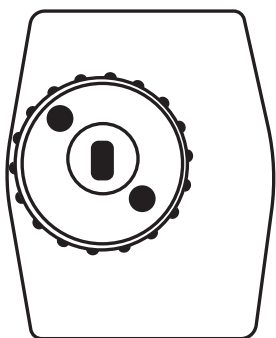
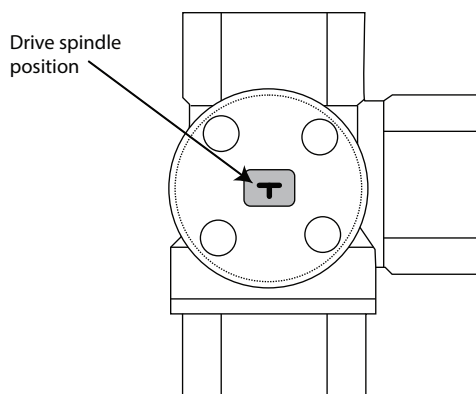
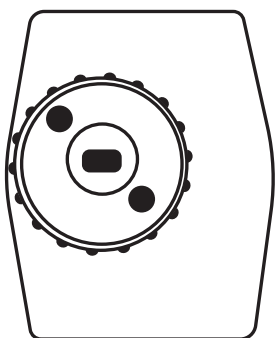
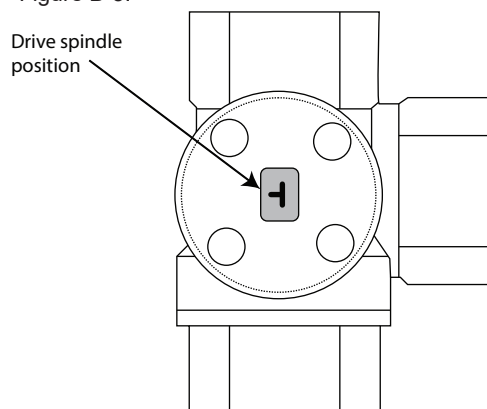

Figure B-2: Actuator spindle slot position - DHW
Figure B-3: Option 1 - Drive spindle position
Figure B-4: Actuator spindle slot position - Heating
Figure B-5: Option 2 - Drive spindle position
Refer to Figure B-3 and Figure B-5 for the installation options based on valve orientation. These show the position of the drive spindle indicator required to ensure the valve is set to function correctly once the actuator is mounted.
- For **OPTION 1** – If the actuator spindle slot is correct in Figure B-2, set the 'T' on the end of the valve drive spindle to point as shown in Figure B-3.
- If the actuator is in the position shown in Figure G-4, rotate the valve drive spindle 90° clockwise from the position shown in Figure B-3.
- For **OPTION 2** – If the actuator spindle slot position is correct as shown in Figure B-2, set the 'T' on the end of the valve drive spindle to point as shown in Figure B-5.
- If the actuator is in the position shown in Figure B-4, rotate the drive spindle 90° clockwise from the position shown in Figure B-5.
The valve should be wired to the Grant Aeron Smart controller as shown in Figure B-4.